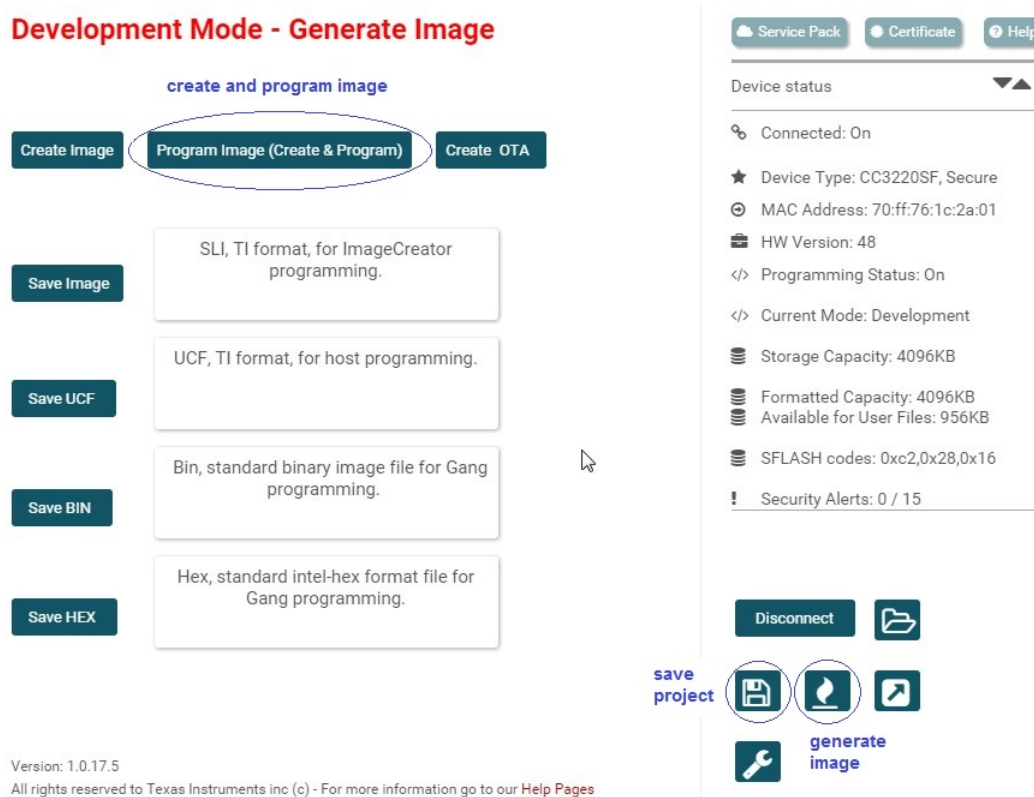

Figure 13. Program Image and Generate Image
9. Save the project and click on the Generate Image icon (see Figure 13).
10. Click the Program Image button (see Figure 13). The image is now programmed to the device.